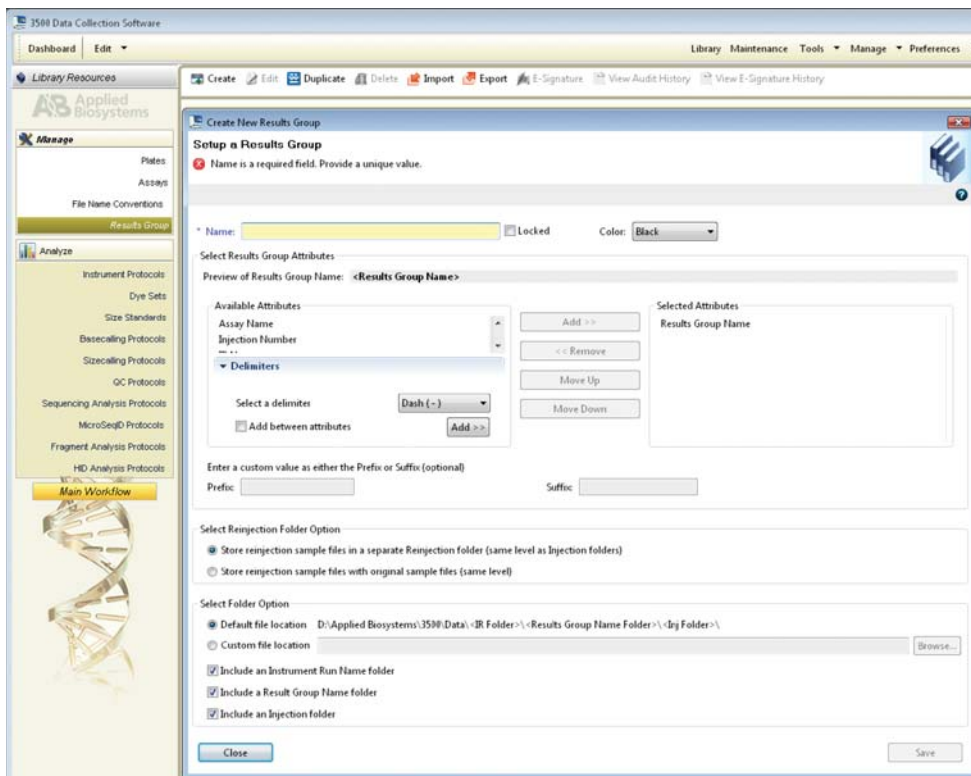

Figure 8. The Create New Results Group window.
- To create a new Results Group (Figure 8), navigate to the Library. Select “Results Group”, then select “Create”. Alternatively, a previously created Results Group may be used.